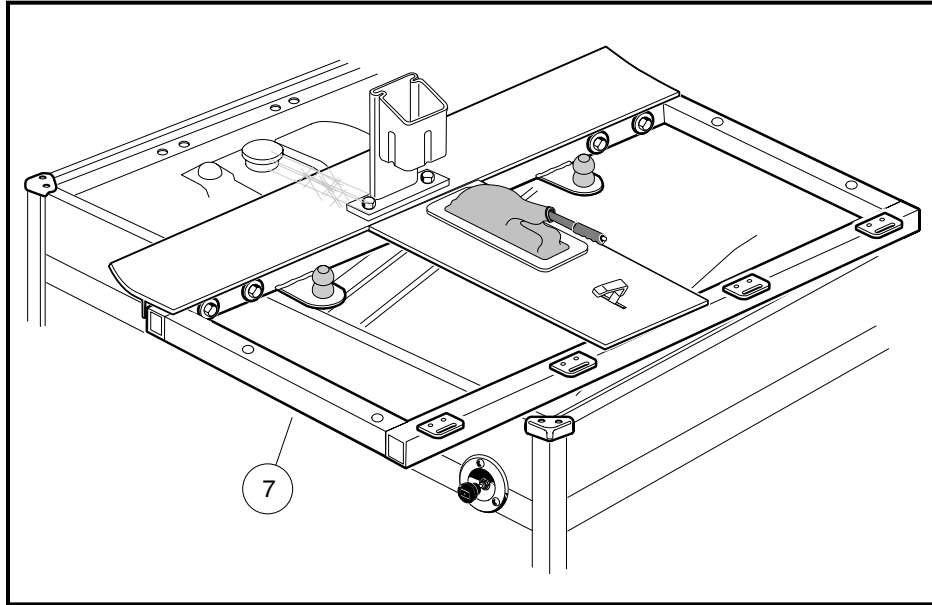

Figure 12-34 Battery Removal
7. Carefully lift and rotate the seat support (7) 90° counterclockwise and allow it to rest on the vehicle body as illustrated (**Figure 12-34, Page 12-36**). **See following NOTE.**